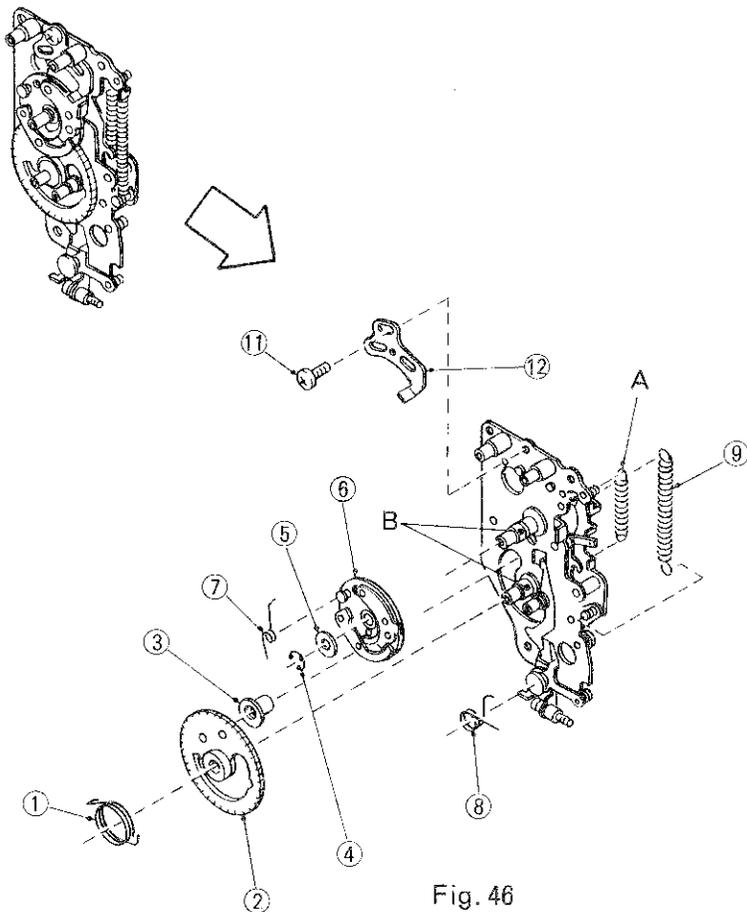

Fig. 46
1. Disassemble the winding base plate in the numerical order as illustrated. (Fig. 46)
Note: Apply Moebius grease (#No. 8300) to the pillar (B)(Fig. 46).